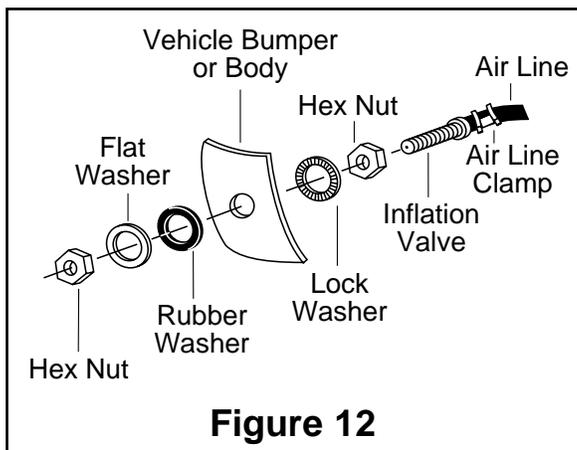

Figure 12
- J. Drill a 5/16" hole for inflation valve and mount as in illustration (Figure 12). Rubber washer is for outside weather seal.
- G. Drill 5/16" hole for inflating valves and mount as illustrated. Rubber washer is for outside weather seal (Figure 12).